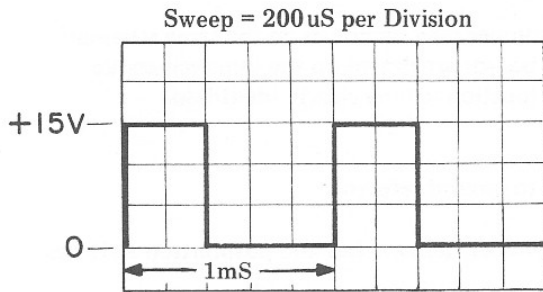

Fig. 7 - Determining Frequency
- 2) In Figure 7, a cycle of the waveform takes five divisions. The sweep is set for 200 microseconds per division. The time required for a single cycle is  $200\mu S \times 5$  divisions or 1000 microseconds = 1 millisecond = .001 second.